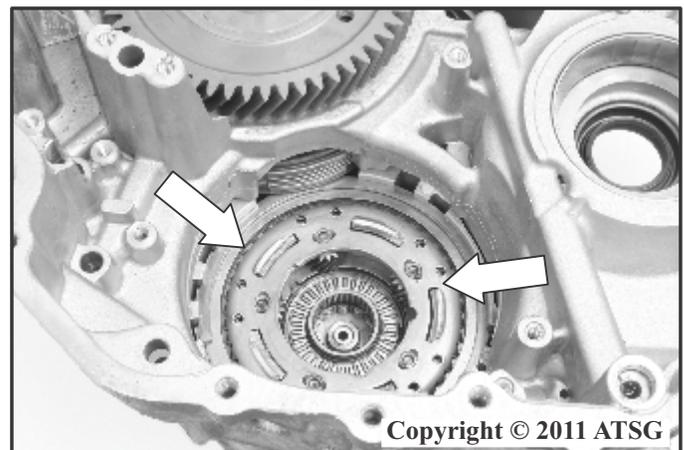

Figure 223
36. Install the 1-2/Reverse planetary carrier into the transmission using a twisting motion so that the planetary carrier assembly splines into each of the 1-2/Reverse clutches as shown in Figure 223.